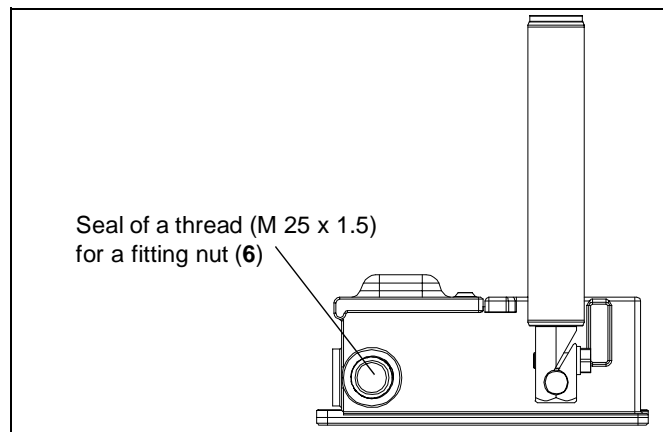

Fig. 5-3: Breaking off the seal of a thread
2. Carefully break off one of the three seals of the threads for a fitting nut (6), and smooth the edge by means of a knife or a file (s. fig. 5-3).
3. Screw in a fitting nut (6) into the thread (M 25 x 1.5) of the misalignment switch.